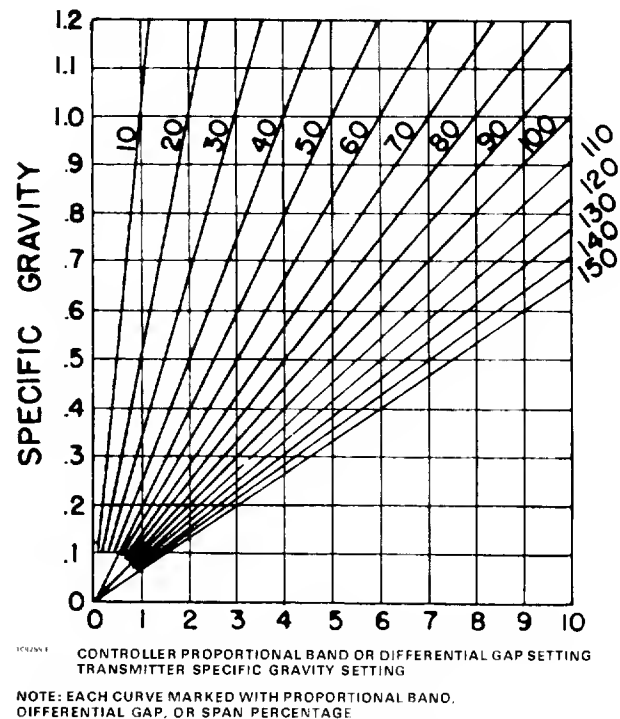

Figure 12. Proportional Band, Differential Gap, or Span Setting Chart
- **Sensor with Both Standard Torque Tube and Displacer of Recommended Volume**—If the torque tube is standard and displacer volume is close to that recommended in table 2, use figure 12 to find the PROPORTIONAL BAND or SPECIFIC GRAVITY setting. Take the specific gravity of